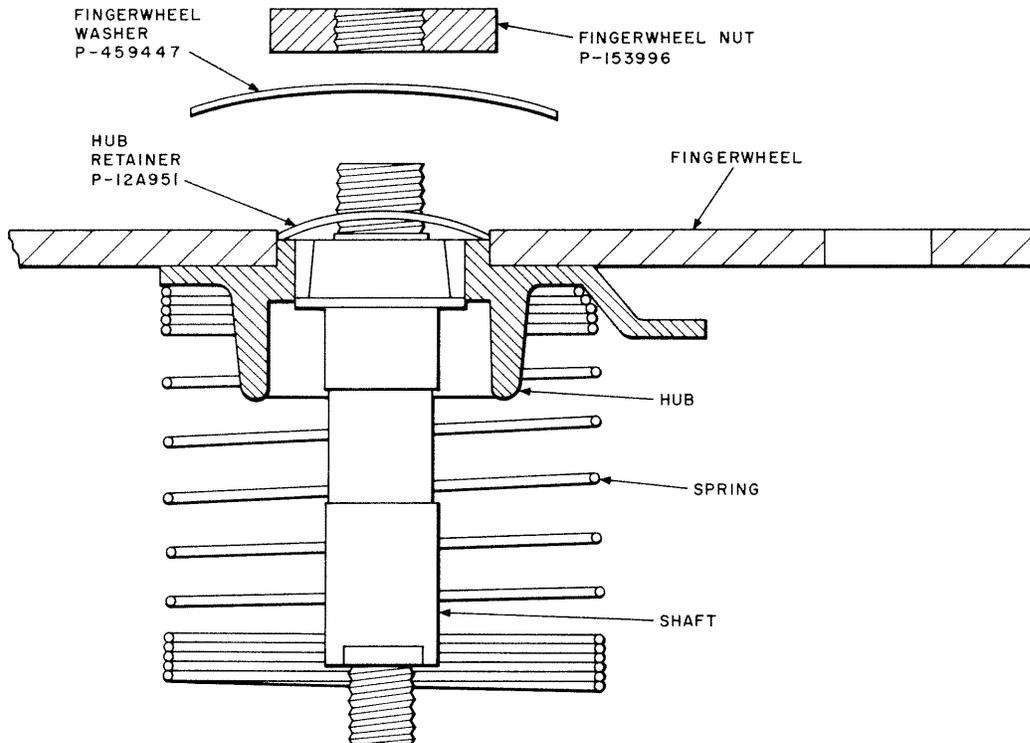

Fig. 13 — Dial Hub Retainer and Spring Washer
3.20 If the fingerwheel is removed for any reason, fingerwheel washer P-459447 (if not already present) shall be placed between the fingerwheel and the fingerwheel nut, (Fig. 13) except when a plastic fingerwheel is used on 5-type dial.
3.21 If the fingerwheel is removed from a 6- or 7-type dial of early manufacture, install a P-12A951 hub retainer (Fig. 13) to prevent the motor spring and hub assembly from jumping out of its proper position. (Replace dial if this occurs.) Dials of later manufacture (identified by a black finish fingerwheel nut)